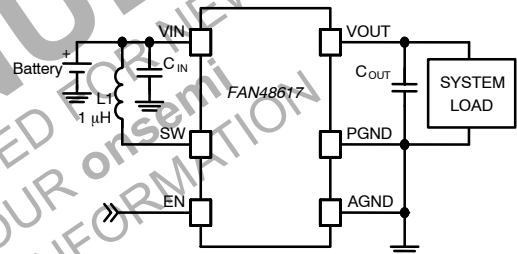

Figure 1. Typical Application
**ELECTRICAL CHARACTERISTICS** (Recommended operating conditions, unless otherwise noted, circuit per Figure 1,  $V_{OUT} = 5.0\text{ V}$ . Typical, minimum and maximum values are given at  $V_{IN} = 3.6\text{ V}$ ,  $T_A = 25^\circ\text{C}$ ,  $-40^\circ\text{C}$ , and  $+85^\circ\text{C}$ .)
(Unless otherwise specified;  $V_{IN} = 3.6\text{ V}$ ,  $V_{OUT} = 5.0\text{ V}$ ,  $T_A = 25^\circ\text{C}$ , and circuit according to Figure 1.
(Unless otherwise specified;  $V_{IN} = 3.6\text{ V}$ ,  $V_{OUT} = 5.0\text{ V}$ ,  $T_A = 25^\circ\text{C}$ , and circuit and components according to Figure 1.